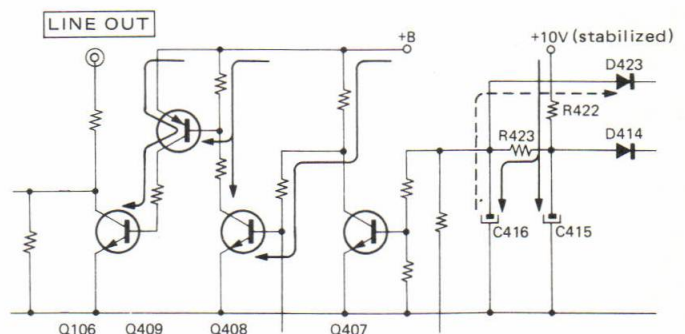

Fig. 3
3. LINE OUTPUT MUTING CIRCUIT (See Fig. 3)